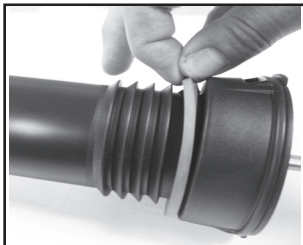

Figure 1
1. Inspect gasket. If worn or damaged, remove and replace. **(See Figure 1)**